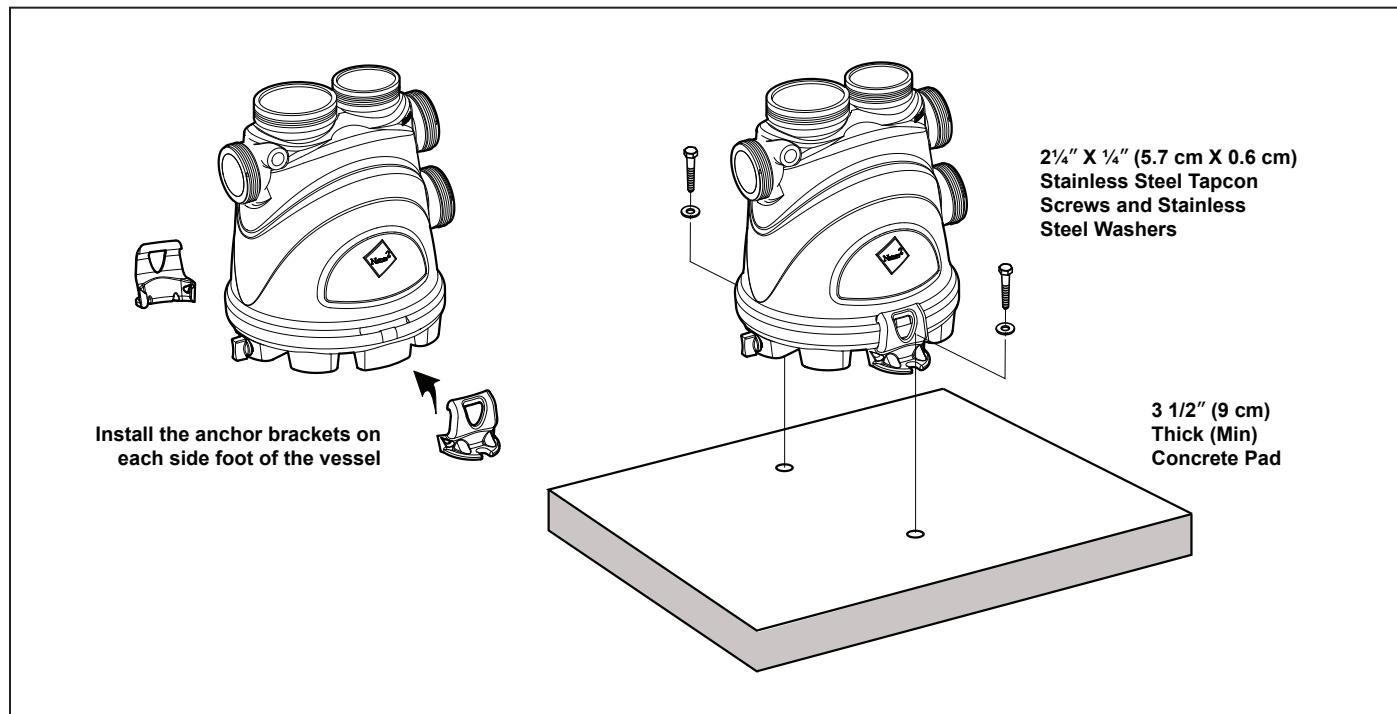

Figure 2. Anchor Bracket Installation
1. Manually snap on the two (2) clip-type anchor brackets onto the side feet of the vessel as shown in Figure 2. Make sure these anchor brackets are attached firmly to the feet of the vessel.
3. Drill a $5/32''$ (0.5 cm) hole in the concrete at each of the two (2) hole locations of the anchor brackets. The correct size concrete drill bit should be obtained when the concrete screws are purchased.
4. Install the Tapcon screws and washers into each of the two (2) holes to secure the vessel to the equipment pad. Do not over-torque the screws.